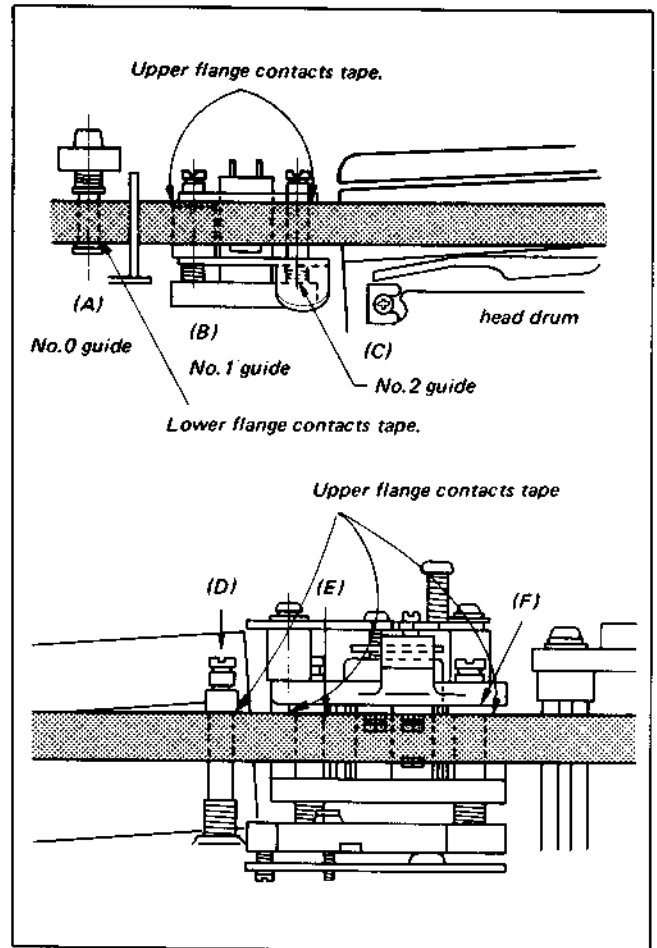
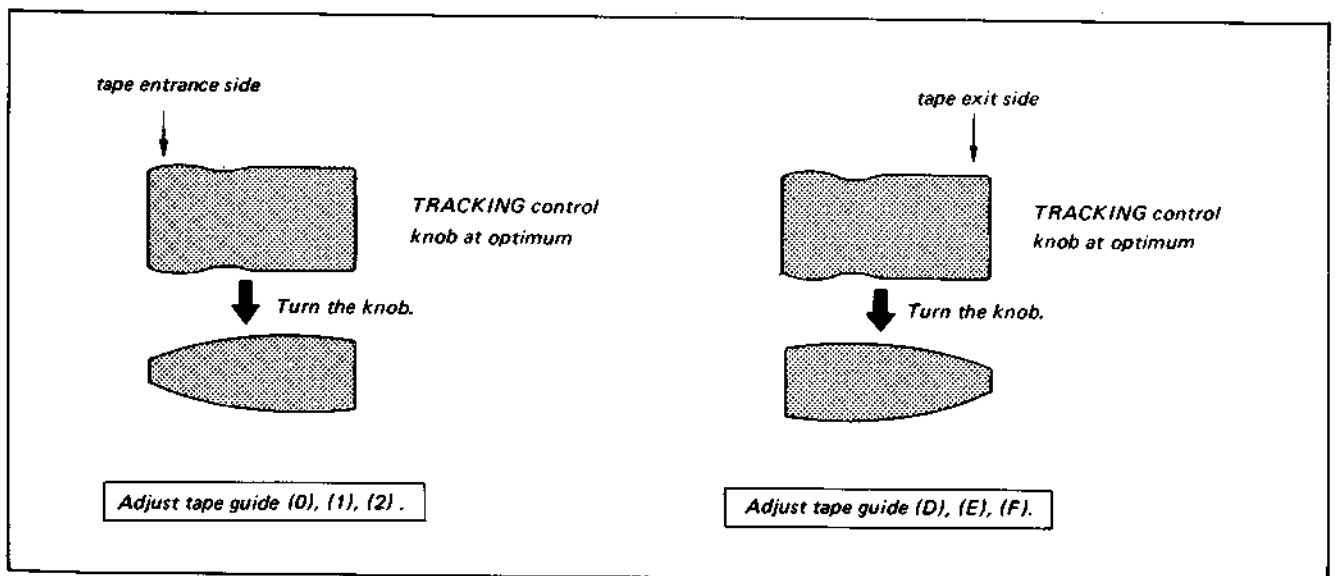

Fig. 3-53. Adjustment of tape path
Fig. 3-52. Adjustment of tape path
- 6) When the waveform at the tape entrance side is not flat as shown in Fig. 3-52 for the clockwise and counterclockwise turning of the TRACKING control knob from center detent position, adjust the heights of tape guides (0), (1), and (2). When the waveform at the tape exit side is not flat, adjust the heights of tape guides (D), (E), and (F). The height adjustment must be performed so that the tape contacts the drum heads, and there is a minimum curl (not more than 2 mm) at the flange of each tape guide, the upper or lower flanges contact the tape as shown in Fig. 3-53 and the RF waveform is flat.
3) Raise the tape guide (D) shown in Fig. 3-53 by 0.5 mm. (Turn the nut one turn.)